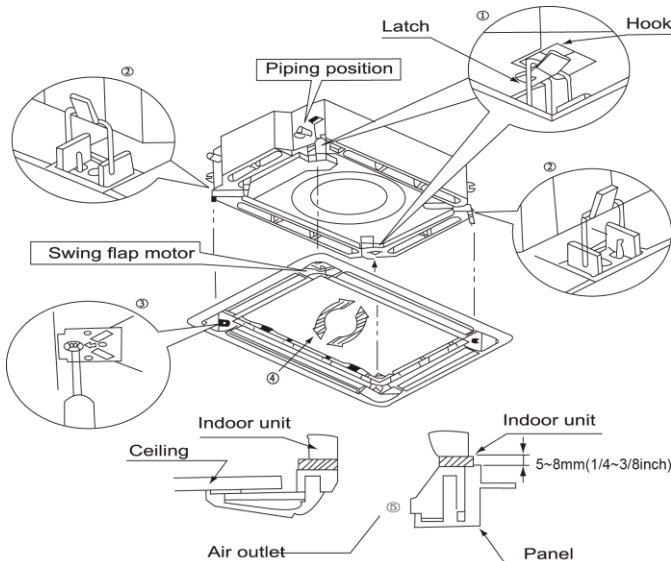

Fig. 4.35
- (1). Place the panel at the unit, and latch the hooks beside and opposite the swing flap motor.
- (2). Latch other two hooks.
- (3). Tighten four hexagonal screws under the latches about 15mm (5/8inch).
- (4). Adjust the panel along the direction indicated by the arrow as shown in Fig. 4.35.
- (5). Tighten the screws until the thickness of the sealing material between the panel and the indoor unit reduces to 5~8mm (1/4~3/8inch).